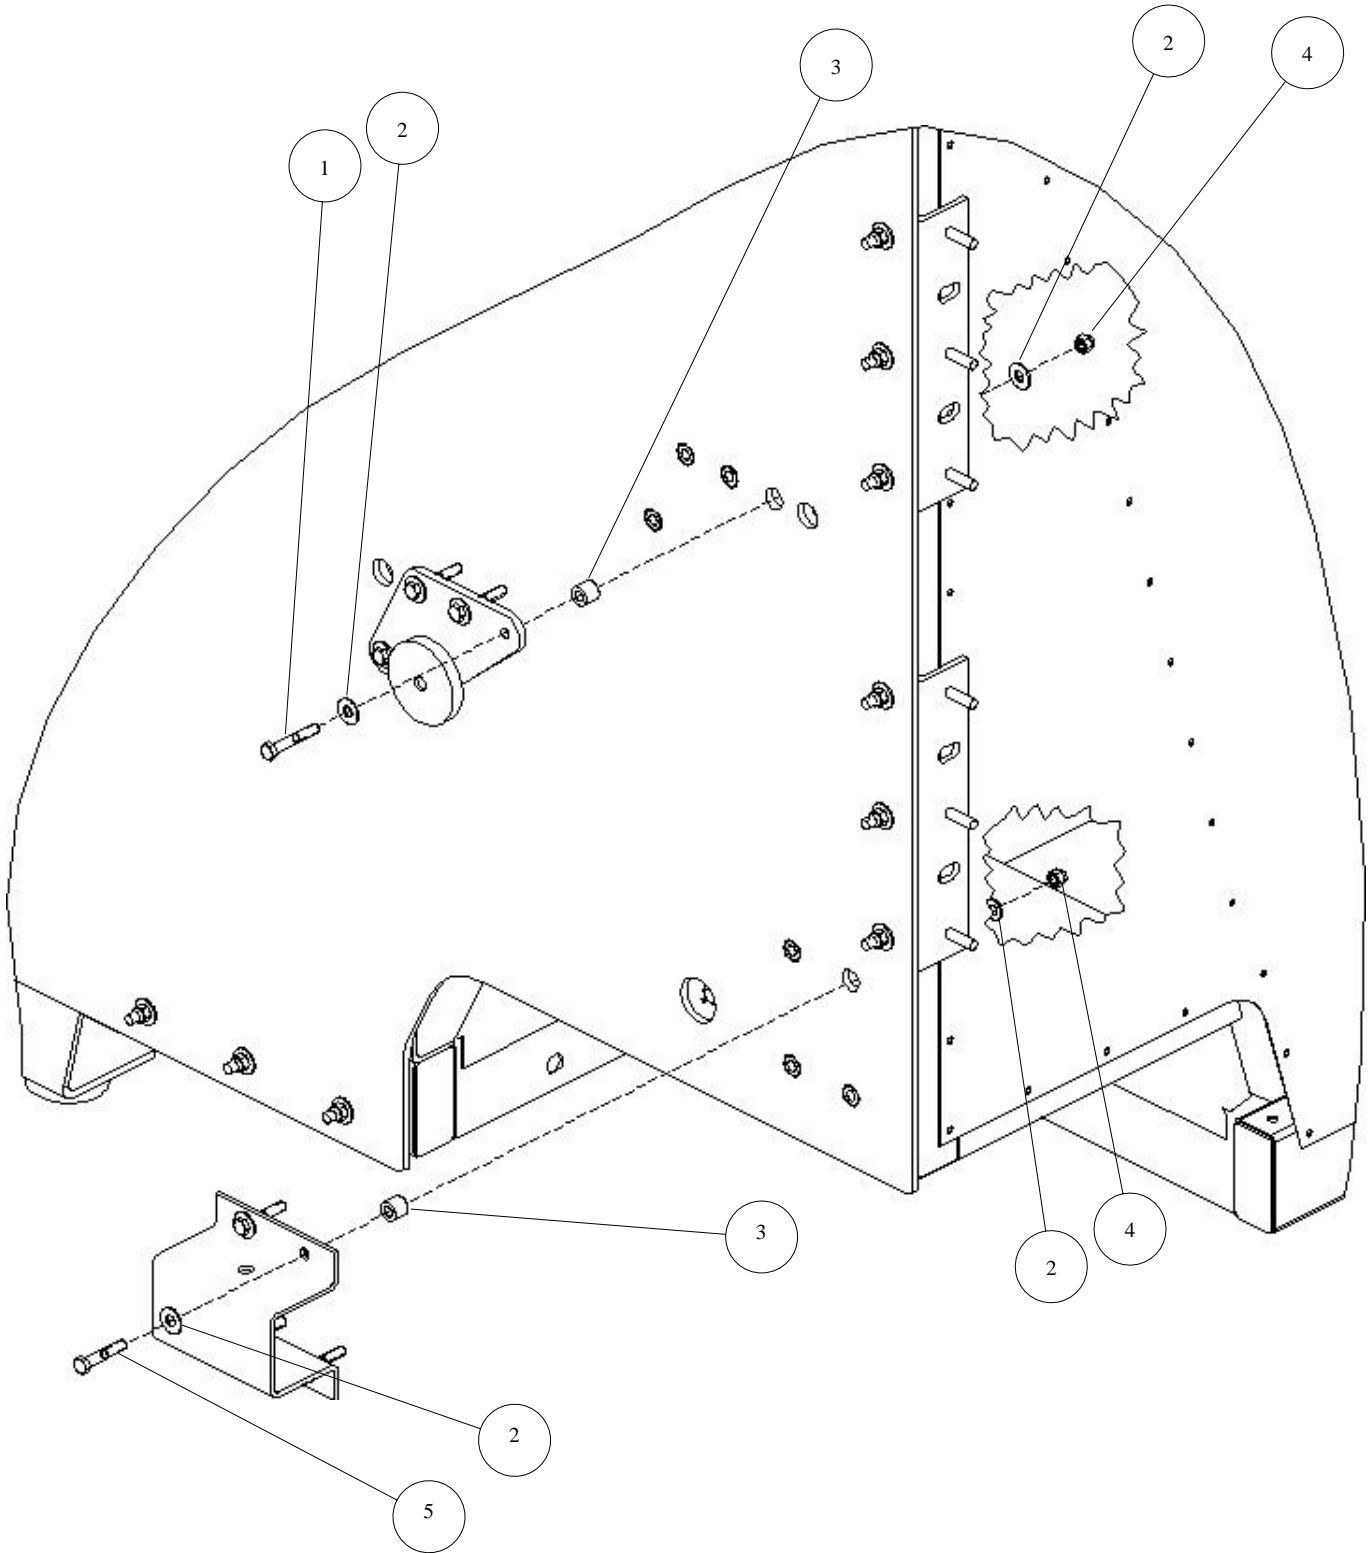

Figure 3-15. Tire Pulley Bracket and Tire Mount Bracket Installation.
4. Re-install the tire pulley and tire-mount bracket as shown (see Figure 3-15).
- a. Re-install tire pulley bracket (retained from Teardown, Chapter 2) using four bolts (1), eight flat washers (2), four spacers (3), and four locknuts (4). Torque locknuts to 35 lb-ft.
- b. Re-install tire mount bracket (retained from Teardown, Chapter 2) using four bolts (1), eight flat washers (2), four spacers (3), and four locknuts (4). Torque locknuts to 35 lb-ft.